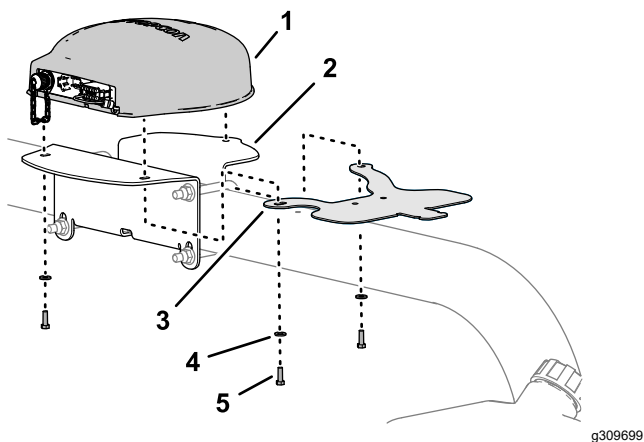

Figure 125
- 1. Align the 3 threaded in the base of the navigation receiver to the 3 holes in the receiver mount (Figure 125).
2. Align the hole and slot in the modem-antenna bracket with the holes in the receiver mount (Figure 125).
3. Assemble the navigation receiver and antenna bracket to the mount (Figure 125) with the 3 hex-head bolt (5 x 16 mm) and 3 washers (5 mm).